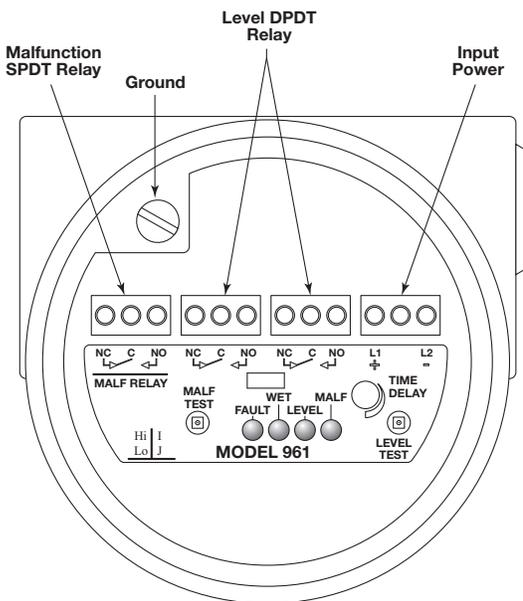

Figure 6
4. Refer to Figure 6. Connect power leads to proper terminals. Model 961 is available for AC power (102 to 265 VAC) or for DC power (12–35 VDC)
5. Connect desired relay wiring as shown in Figure 6.